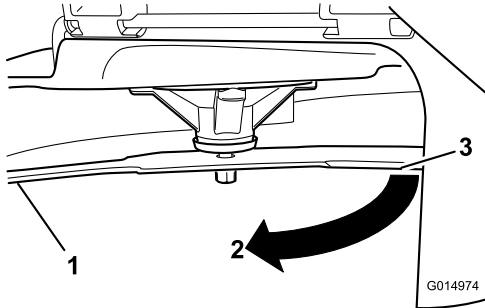

Figure 72
3. Second measured distance between blade and surface (B)
4. Rotate the same blade 180 degrees so that the opposing cutting edge is now in the same position (Figure 72).